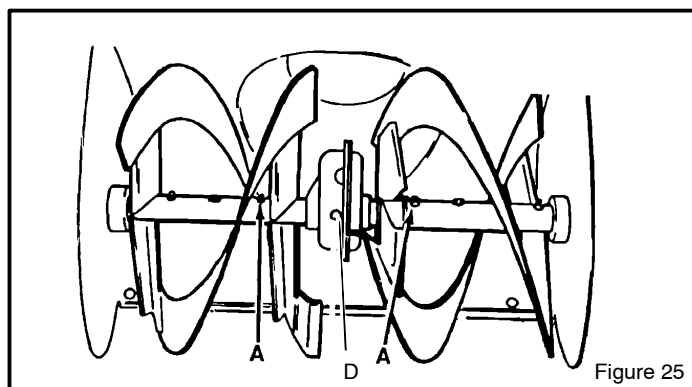
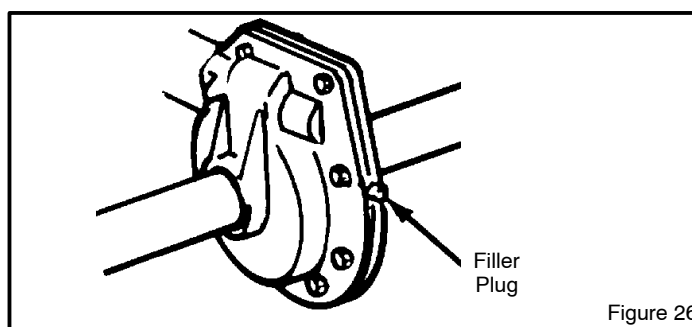

Figure 25
Figure 26
Remove filler plug D (Figure 25 and Figure 26), once a year. If grease is visible, do not add. If grease is not visible, use a piece of fine wire, like a dipstick to check if there is grease in the gear box. Mobilux EP1 and Shell Aldania EP1 are suitable equivalents.
1. **Auger Shaft** – Using a hand grease gun, lubricate the auger shaft zerk fittings (A) every ten (10) operating hours. Each time a shear bolt is replaced, the auger shaft **MUST** be greased (Figure 25). (See To Replace Auger Shear Bolt in the MAINTENANCE section).